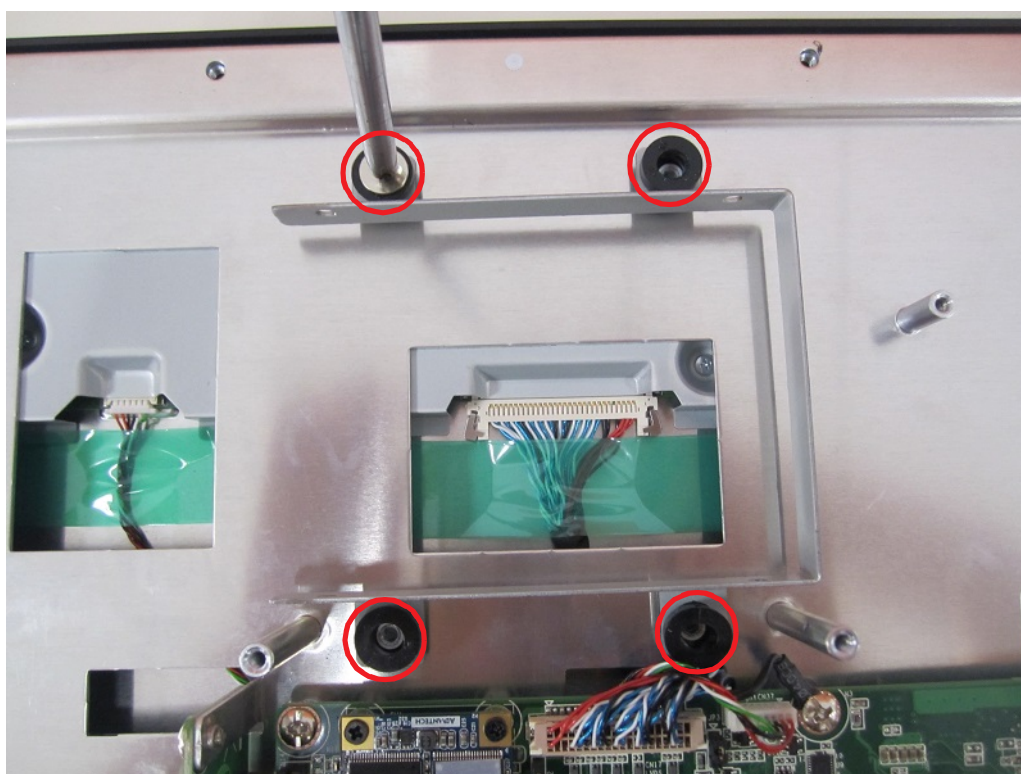

Figure 2.10
3. Remove the four screws (circled in red in Fig. 2.10) to remove the HDD cover.